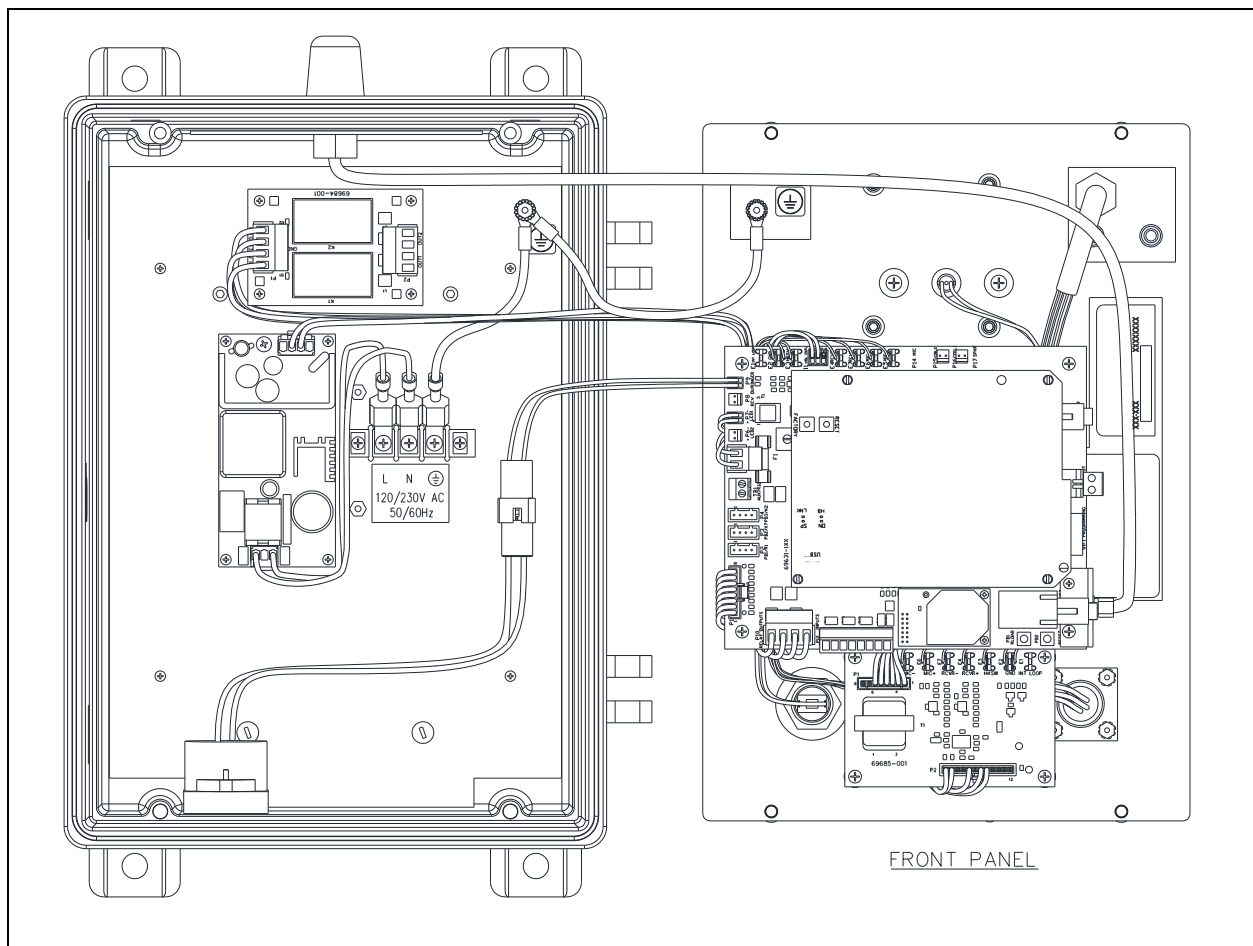
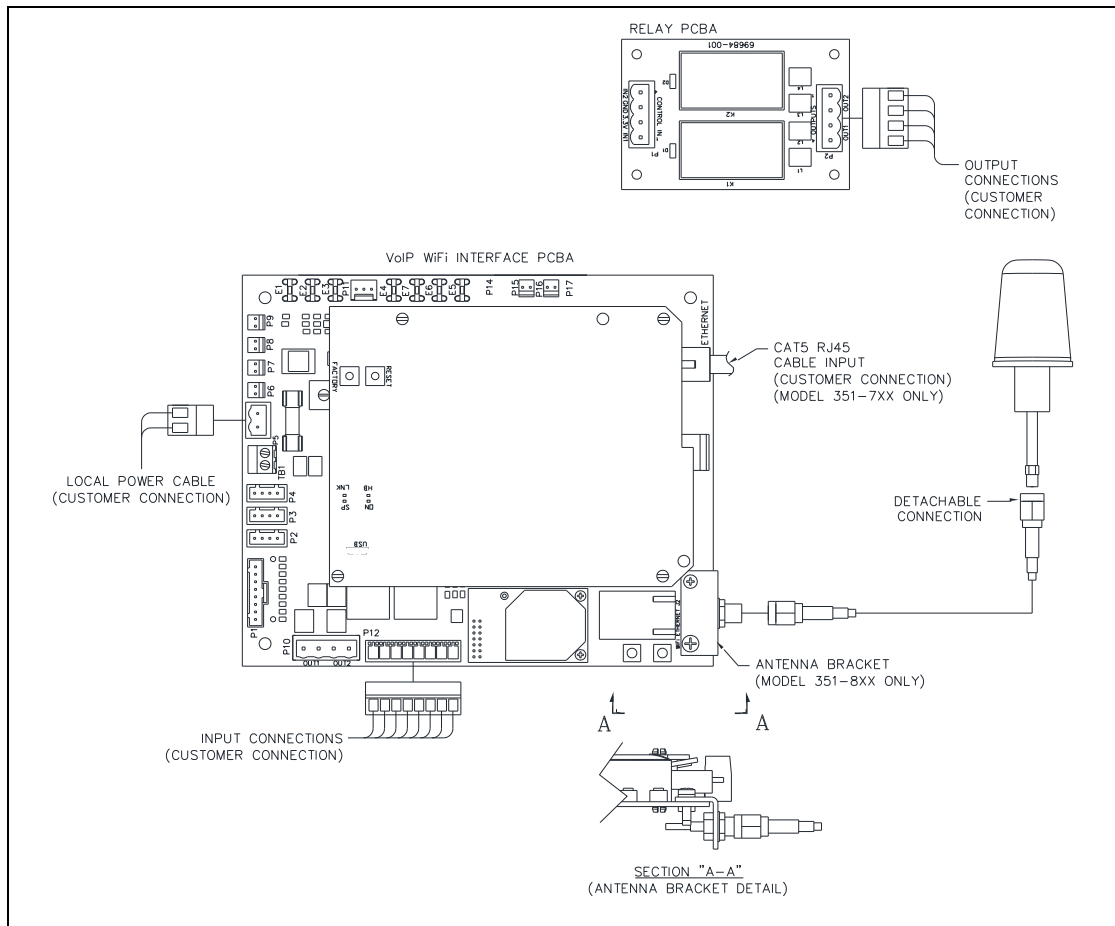

Figure 6. Installation and Maintenance Configuration
Figure 7. Internal PCBA Connections
Keep all wiring connected (see Figure 6).
1. *For wired versions:* plug the incoming Category 5 data line into the RJ45 jack, located on the underside of the VoIP circuit PCBA (see Figure 6 and Figure 7).
5. Install all additional connections as indicated in the following subsections (see Table 3, Figure 6, and Figure 7).
Connect a Cat5 or better UTP cable with an RJ45 connector between the LAN and the VoIP PCBA (see Figure 7). The RJ45 jack is located on the underside of the VoIP PCBA.
1. Terminate the inputs to terminal block P12 (see Figure 7).
1. Terminate the outputs to connector P2 on the Relay PCBA (see Figure 7).